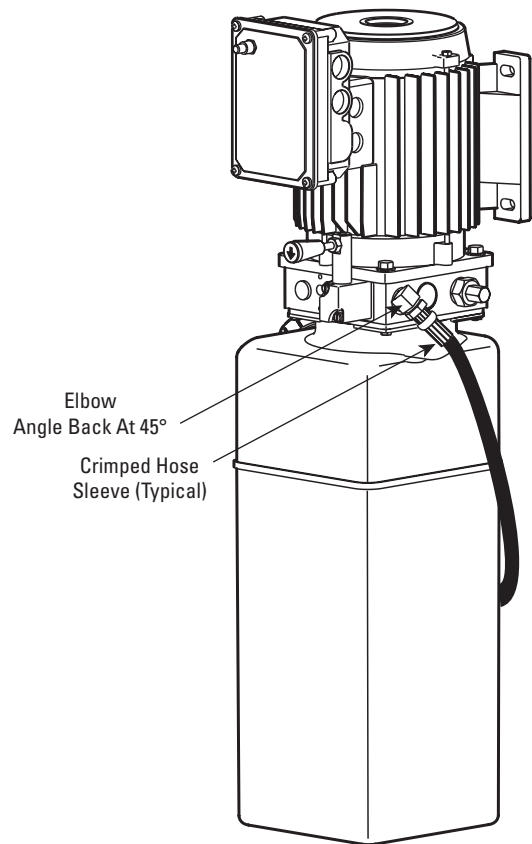
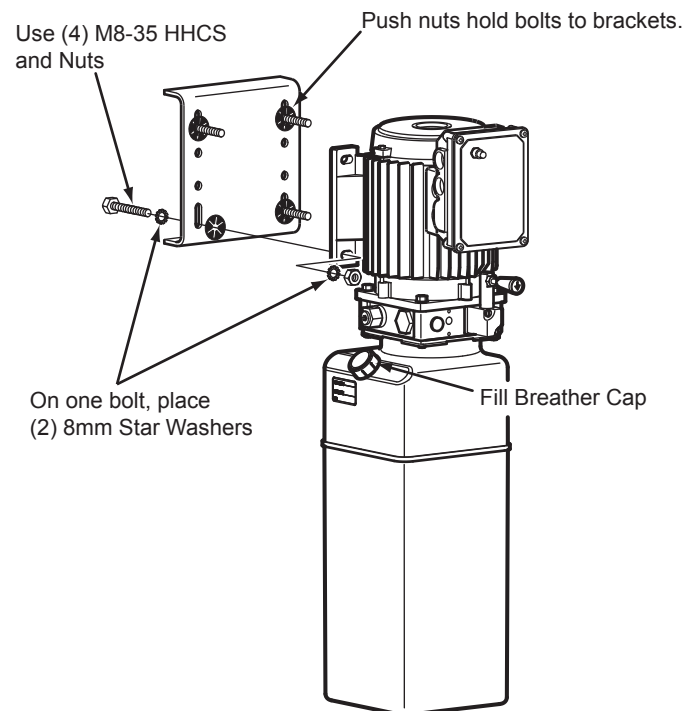
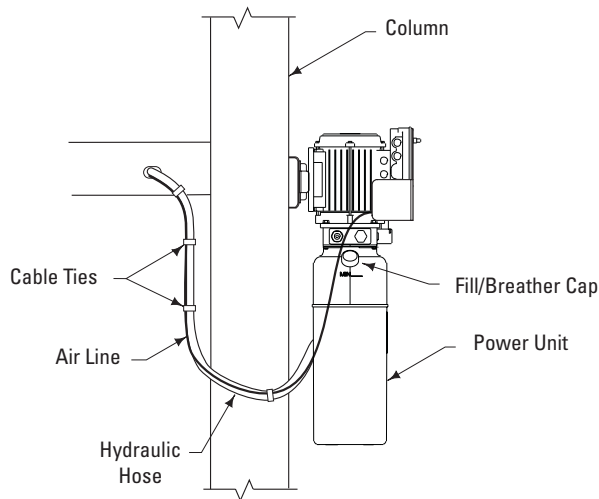
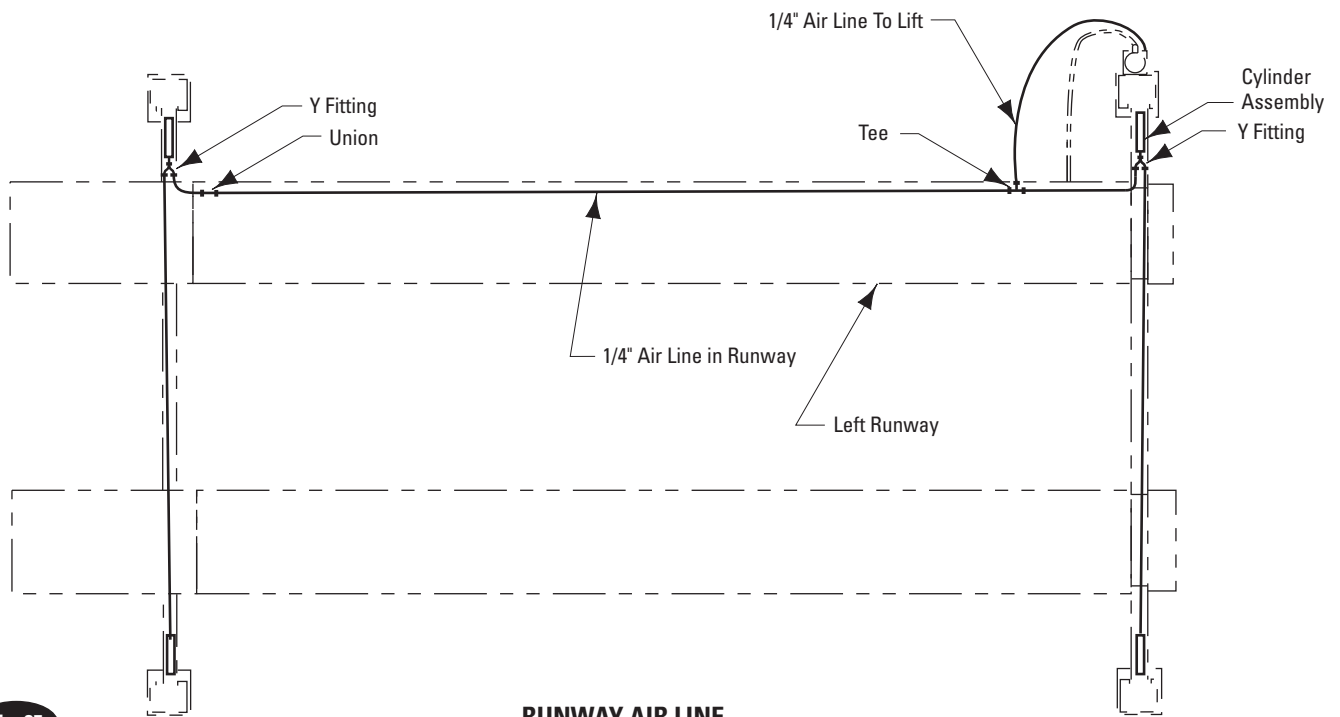

Fig. 17
Fig. 18
Fig. 19
Fig. 25
- A. Put (4) M8-35 hex bolts through holes in column bracket using push nuts to hold in place.
- B. Mount power unit with motor up, Fig. 18 to column bracket and install washers and nuts. Run hydraulic hose from runway through slot in side of runway to power unit output port, Fig. 19. DO NOT use Teflon tape on hydraulic hose connections.
45°, Fig. 17. Tighten locknut to 35-40 ft-lbs. (47-54 Nm) Install enclosed Capacity label on power unit, Fig. 18.
12. Hydraulic Fluid Filling: System capacity is fourteen (14) quarts. Use Dexron III ATF. Remove fill/breather, Fig. 19. Pour in fourteen (14) quarts of fluid. Replace fill/breather. Start motor and raise lift to full rise. Lower onto latches.
Note: If fill/breather, Fig. 19, is lost or broken, order replacement.
F. Attach enclosed decals NP280 ("PUSH TO RELEASE LATCHES") and NP864 (LIFT CAPACITY) below button on air valve bracket, Fig. 17. Run 1/4" air line from air valve to the slot in the fixed runway. Cut airline and attach a Tee, Fig. 25, 22.
G. Run 1/4" air line from the Tee in the front yoke through air output on the air valve, Fig. 22, and Fig. 25.
To pressure test, run lift to full rise and run motor for approximately 5 seconds. Stop and check all fittings and hose connections. Tighten or reseal if required. Lower lift. If fill/breather, Fig. 19, is lost or broken, order replacement.